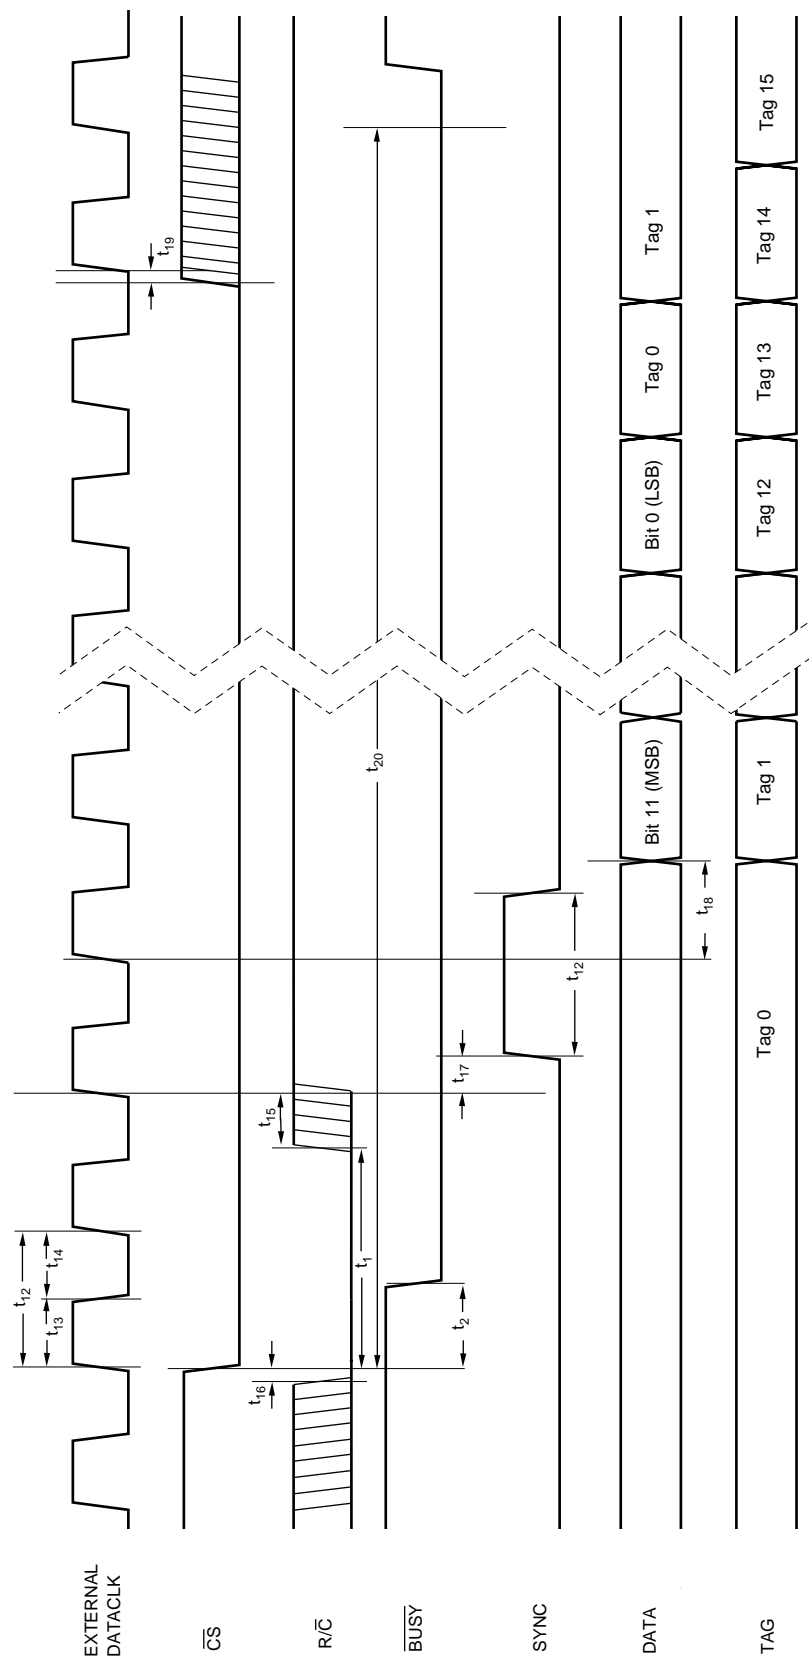

FIGURE 3b. Conversion and Read Timing with External Clock. (EXT/ $\overline{\text{INT}}$  Tied HIGH.) Read During Conversion (Previous Conversion Results).
NOTE: (1) See Figure 3b for constraints on previous data valid during conversion.